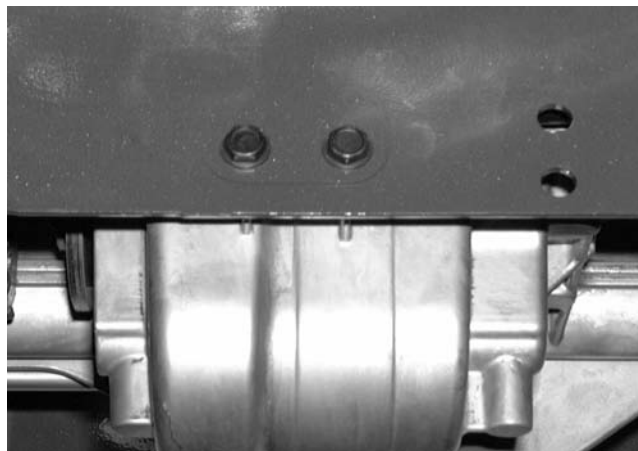

FIGURE 3.
- 8). Remove both of the self tapping screws that secure the transmission to the front torque bracket using a 3/8 socket. See figure 3.